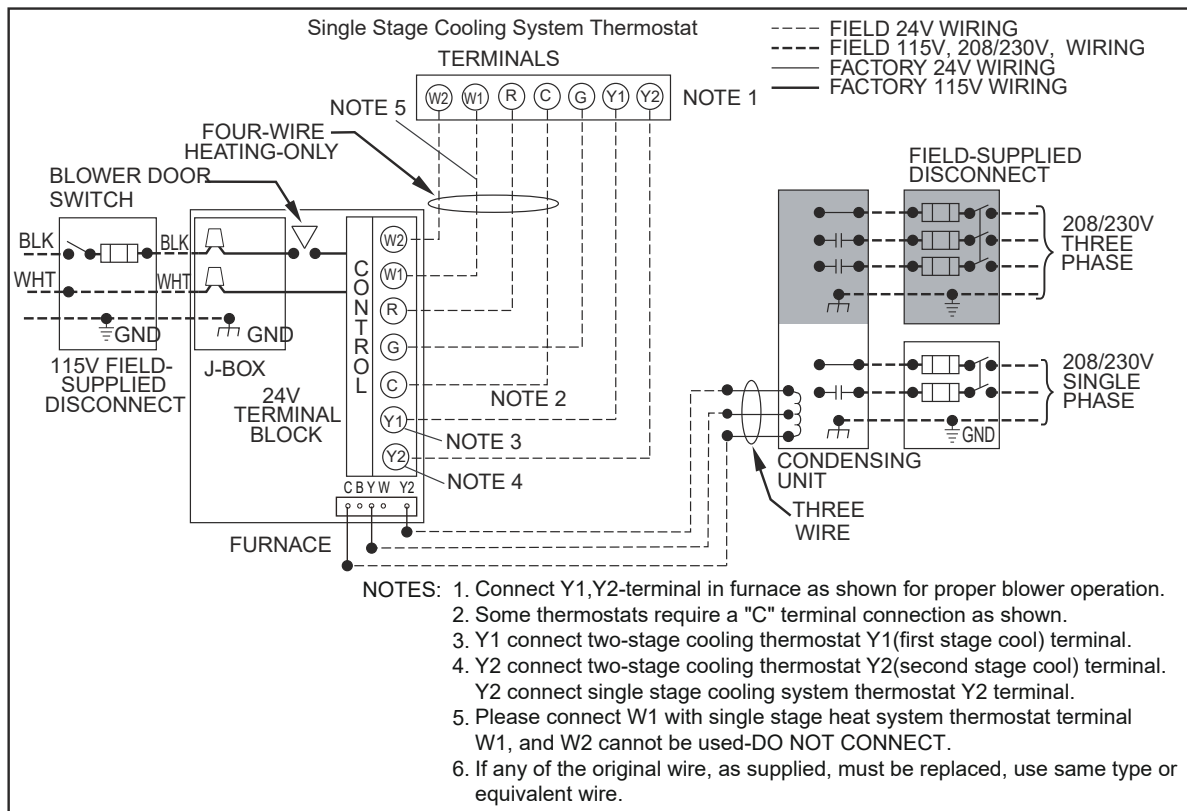

Fig.9-3 Heating and Cooling Application Wiring Diagram with I-Stage Thermostat
5. Connect line voltage leads as shown in Fig. 9-3.
1. Maintain 115V wiring and ground. Improper polarity will result in rapid flashing LED and no furnace operation. (See Fig. 9-3)
2. Make thermostat wire connections at the 24-V terminal block on the furnace control. Failure to make proper connections will result in improper operation. (See Fig. 9-3.)
(See Fig. 9-3 for thermostat connections.)